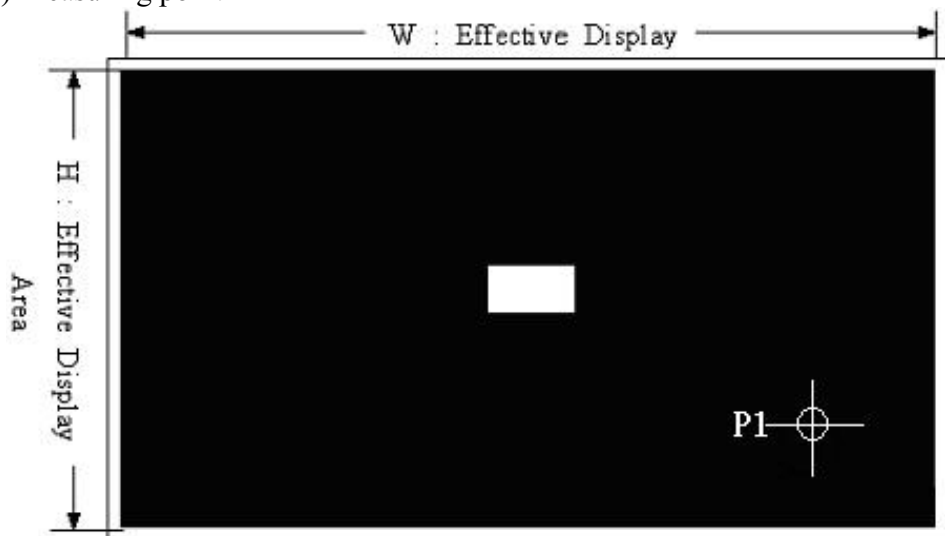

Figure-4. Measurement point
- * 2. Contrast Ratio is calculated from the display Luminance and the non-display Luminance value. Display condition is shown in Figure-4.